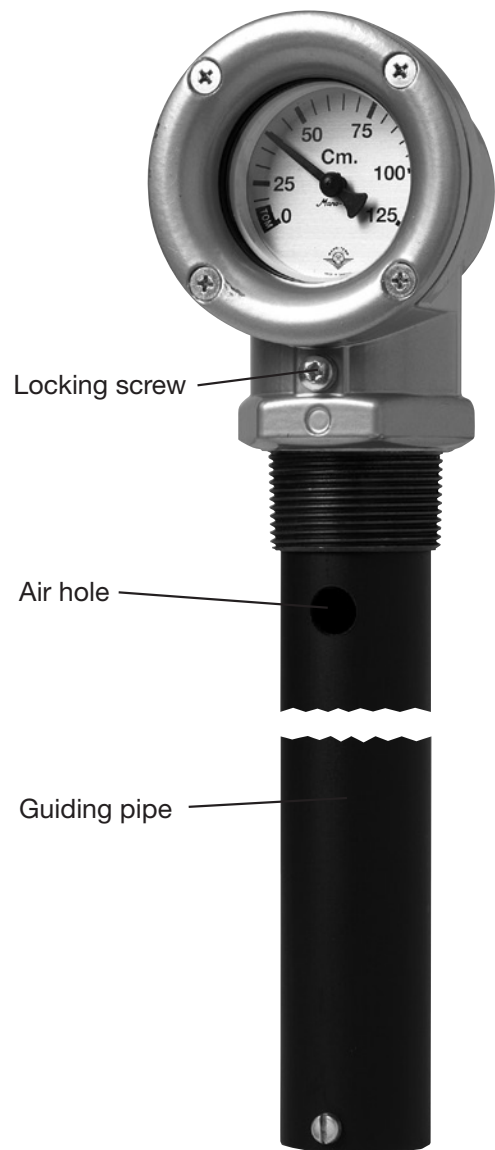

Figure 1
3. Lower the float down into the guiding pipe and **insert the guiding pipe as far as it will go into the gauge**. In order to be able to tighten the locking screw correctly, **the guiding pipe must be rotated so that the air hole is positioned directly below the locking screw** (please see figure 1).